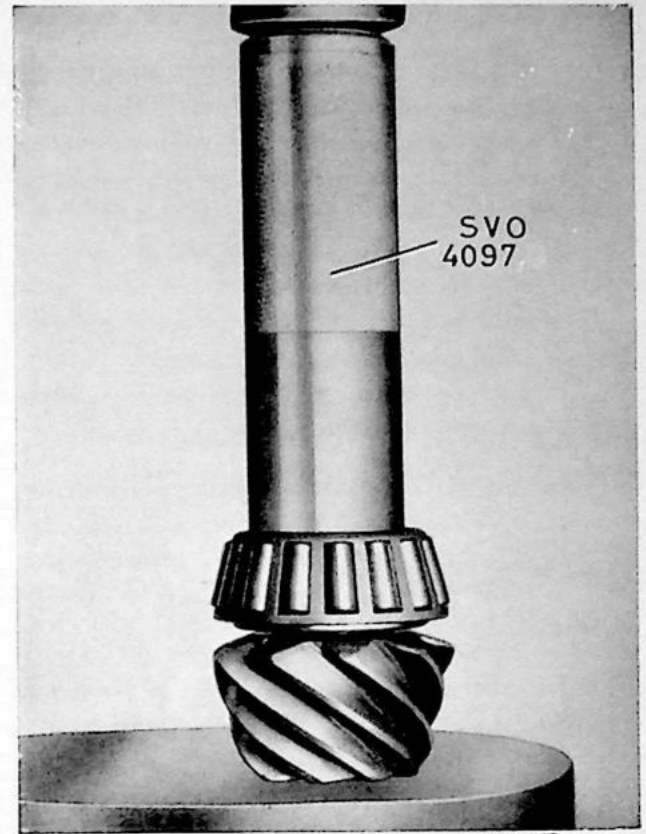

Fig. 18. Fitting rear pinion bearing.
2. Press the rear pinion bearing (29) on the pinion (18). Use tool SVO 4097, see fig. 18.
3. Insert the pinion into the housing and fit on spacing ring (27), the number of shims (26) that there were when disassembling and the front pinion bearing (25). Place on the intermediate ring SVO 4069, wrench SVO 4061 and fit press tools SVO 2304 and SVO 4049 respectively on the front end of